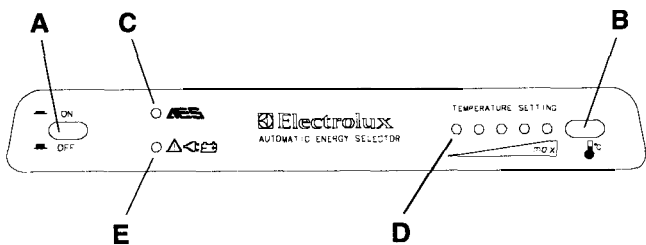

FIG. 1
The control panel is shown in fig.1.
All references are to fig. 1.
WARNING: It is not allowed to have a naked flame at a gas filling station. If you are not sure, that your stop is shorter than 15 min., you are advised to switch off the main switch (A), fig. 1, when stopping at a filling station.
The AES system is designed to guarantee the maximum cooling efficiency under any circumstances. Therefore, the system monitors continuously the voltage level while being in either 12 V DC or 240 V AC mode. If the voltage is too low, the system switches to Gas mode shown by the yellow LED (E in fig. 1.). The system stays in Gas mode, until the electrical supply voltage has recovered to normal level.
The position number refers to fig.1.
1. Set the switch (A), fig. 1, to "OFF".